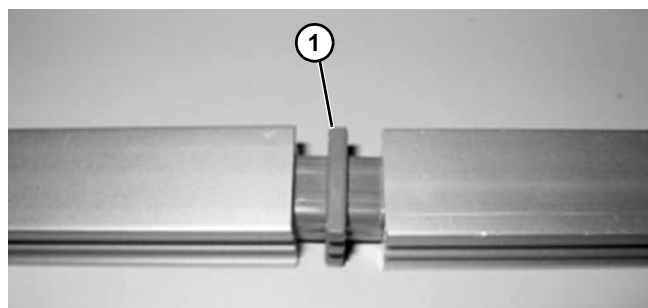

Figure 110
1. Connecting plugs (**Figure 110, item 1**) are pressed into two guide rail ends with soft hammer.